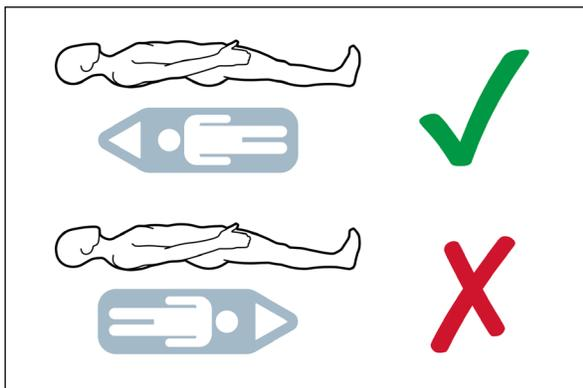
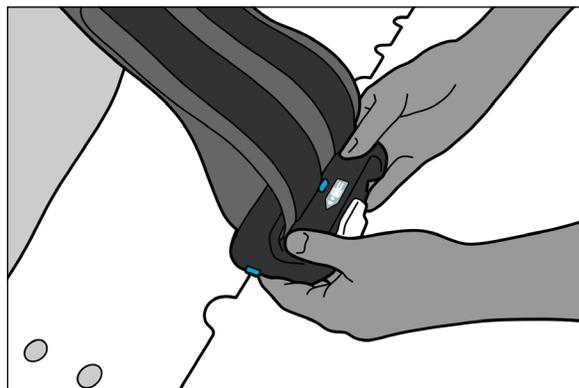

Fig. 5
Fig. 6
4. Ensure the Zifix Clamp lever is in the unlocked position and the clamp is in the correct orientation by matching the label direction with the patient superior and inferior direction (Fig. 5). Then firmly slide the clamp on to the device edge until completely seated (Fig. 6 & 7).